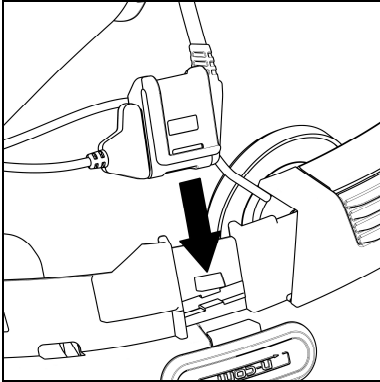

Fig. 4
- Fix the cable inside the helmet and make sure the right fixing clip snaps into its housing (Fig. 4).